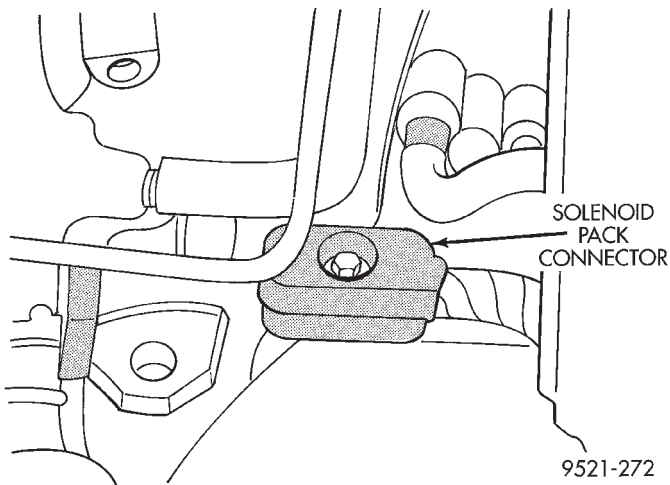

Fig. 43 Solenoid Pack Connector
- (4) Remove solenoid pack connector (Fig. 43).